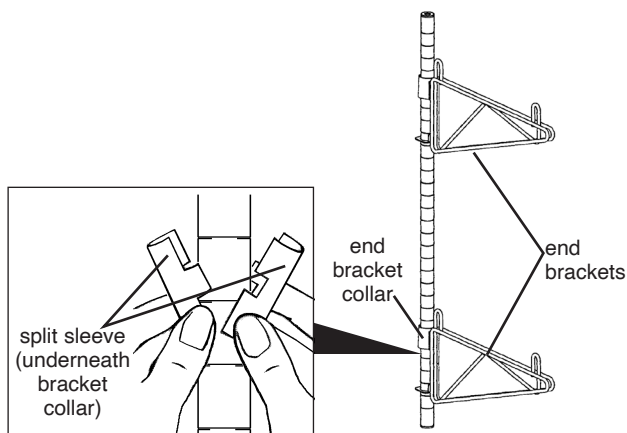

figure 4
- Slide the end bracket collar (see figure 4) over top of post and down onto the plastic split sleeve. Repeat for each shelf bracket.